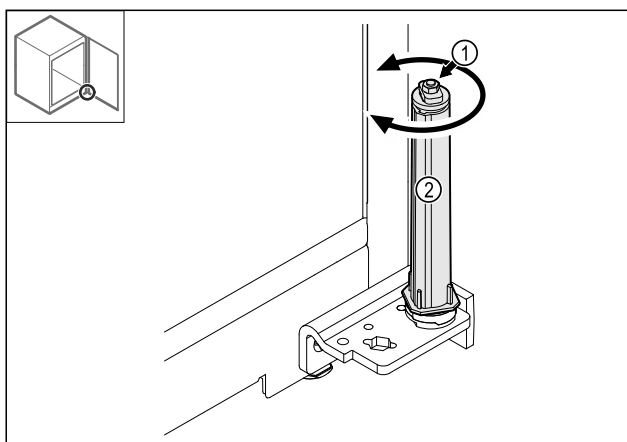

Fig. 31
- Do not dismantle the screw connection Fig. 31 (1) on the locking system.
- Turn the locking system Fig. 31 (2) until it clicks.